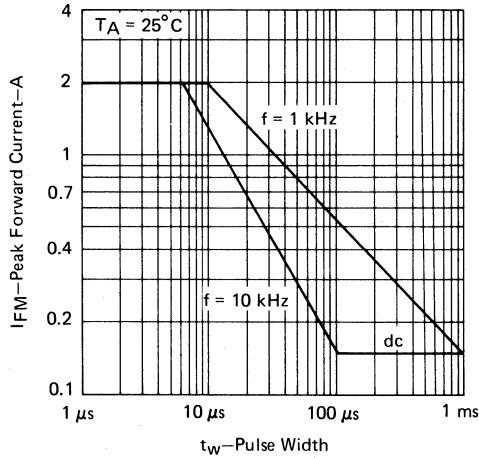

FIGURE 1
2. This value applies for t_w ≤ 10 μs, f ≤ 1 kHz. See Figure 1.